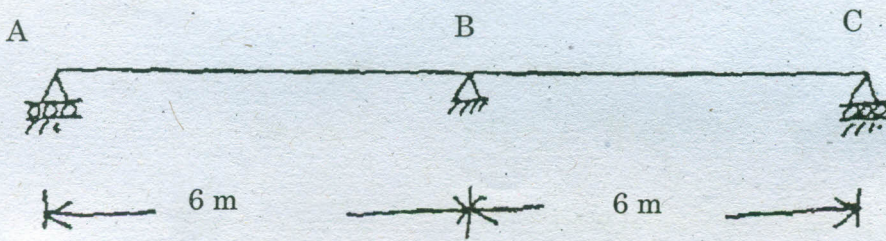

Fig. Q 12 (b)
- (b) Determine the influence line for R_A , for the continuous beam shown in Fig Q. 12 (b). Compute the ordinates at every 1 m interval.